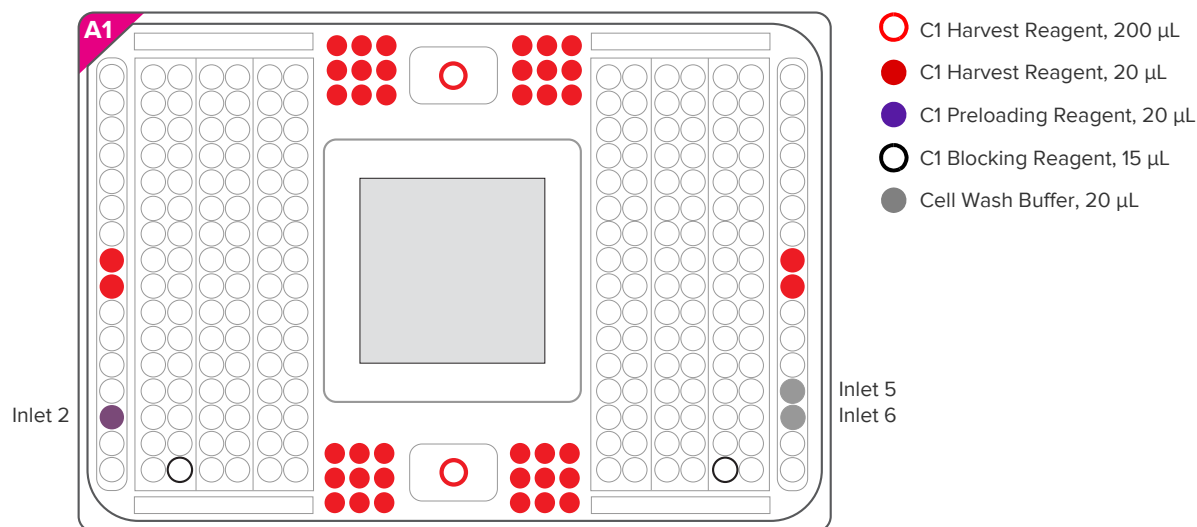

Figure 3. C1 IFC priming pipetting map
- 1 Pipet 200 µL of C1 Harvest Reagent from 4 mL bottle into the accumulators marked with red outlined circles in Figure 3.